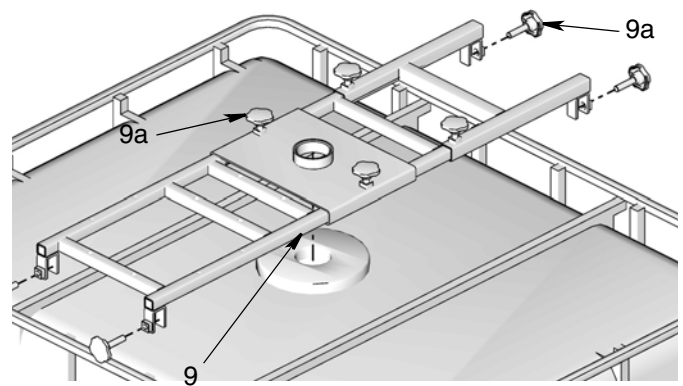

FIG. 8
2. Slide the top bracket (9) to the center of the IBC tank aligning the hole in the center of the bracket with the hole in the top of the tank. Secure the bracket (9) in place by tightening the 6 knobs (9a) securely (FIG. 8 and 9).